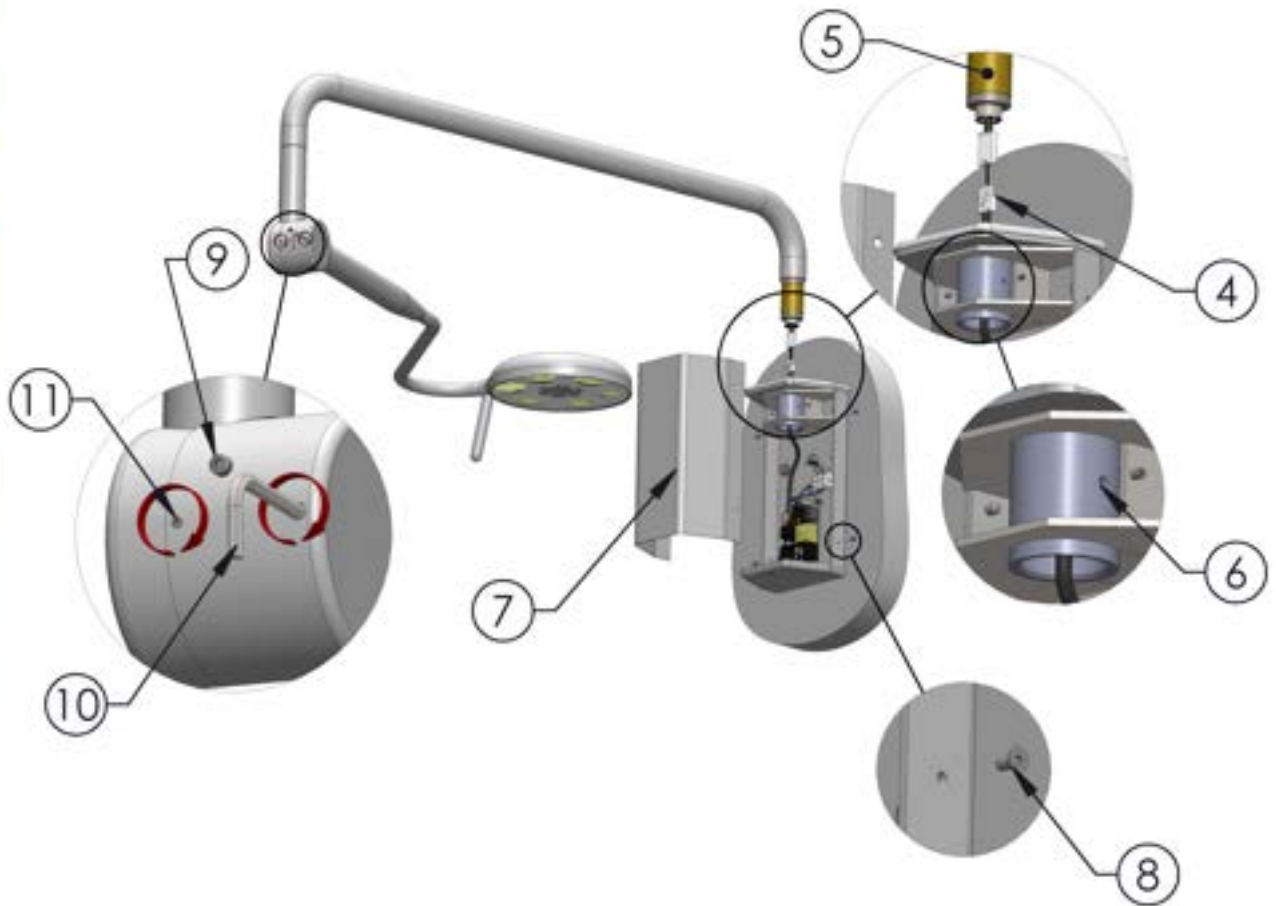

Fig. 18.0
4. Lift Phantom arm into place, and engage the 24V plugs as shown in Fig. 18.0.
5. Insert the arm bearing into the wall unit (taking care to align the threaded holes on the arm side bearing sheath with the corresponding holes on the bearing sheath on the wall unit, as shown in Fig. 18.0.
6. Insert and tighten the two grub screws to complete the fixing of the arm to the wall unit as shown in Fig.18.0.
7. Replace the wall unit cover as shown in Fig. 18.0.
8. Fix in place with the countersunk screws provided, as shown in Fig. 18.0.
9. Unscrew the end cap for access to the spring balance adjustment, as shown in Fig. 18.0.
10. Adjust the spring balance: using a 4mm allen key, adjust the screw inside the knuckle. Clockwise/ Tightening the screw will cause heavier engagement of the spring - this will improve 'head droop'. Anticlockwise/loosening the spring balance will fix a 'rising head' issue, as shown in Fig 18.0.
11. Friction adjustment: Clockwise/tightening this screw will apply more friction to the arm mechanisms, as shown in Fig. 18.0. The arm will require more force to move, however will not continue to move by momentum. This should be set to the staff preference.